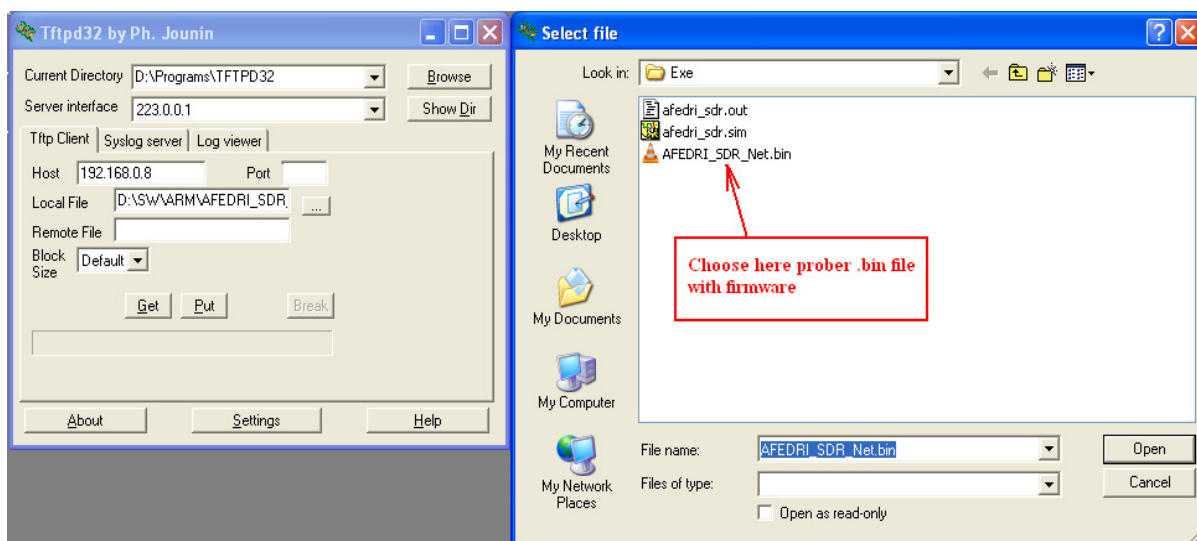

Figure 9 Tftpd32 utility, “Select File” dialog
3.1.5. To choose firmware file (it has .bin extension), press button “Local File” and find firmware file in “Select file” dialog that is appearing after the button was pressed. (see Figure.9)